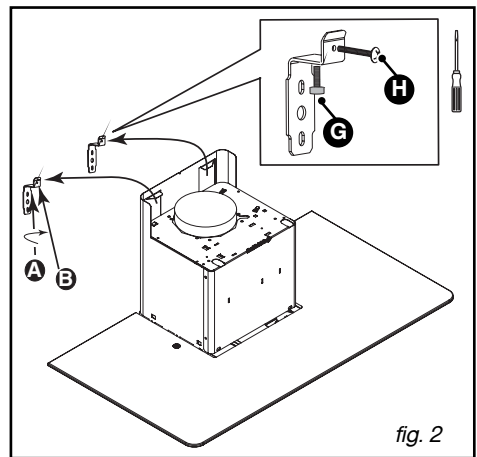

fig. 2
– Using the rectangular cut-outs, attach the suction hood to the two brackets (fig. 2). The size of these cut-outs allows you to adjust the position to the right or left.